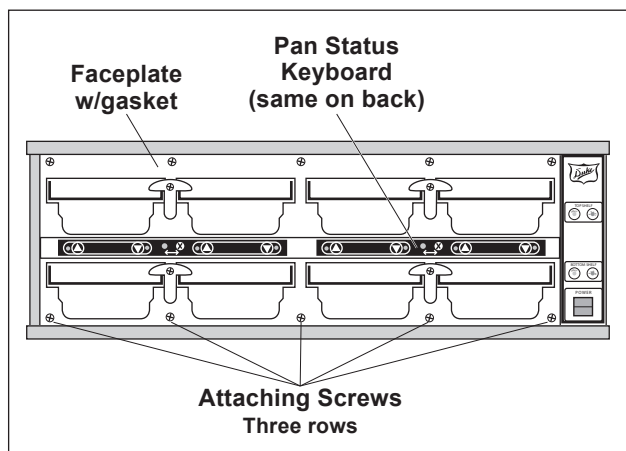

Figure 27. Face Plate w/Gasket
The Face plate w/Gasket, Figure 27, are located on the front and back of the Warmer. Both face plates are removed and installed in the same manner.
1. Set POWER ON/OFF switch (8) to the OFF position and disconnect Warmer from power source.
2. Remove the Pan Status Keyboards, Figure 27, and lay aside. The keyboard does not need to be disconnected.